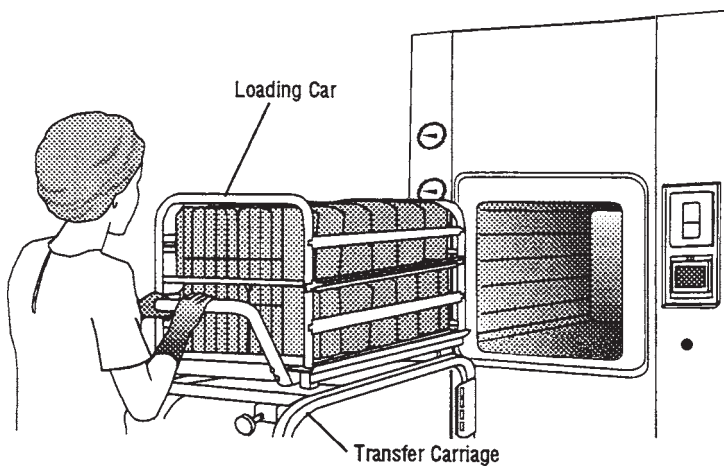

Figure 5-2. Align Loading Car with Chamber Opening
3. Align the front end of the transfer carriage with the end of the sterilizer. (See Figure 5-2).